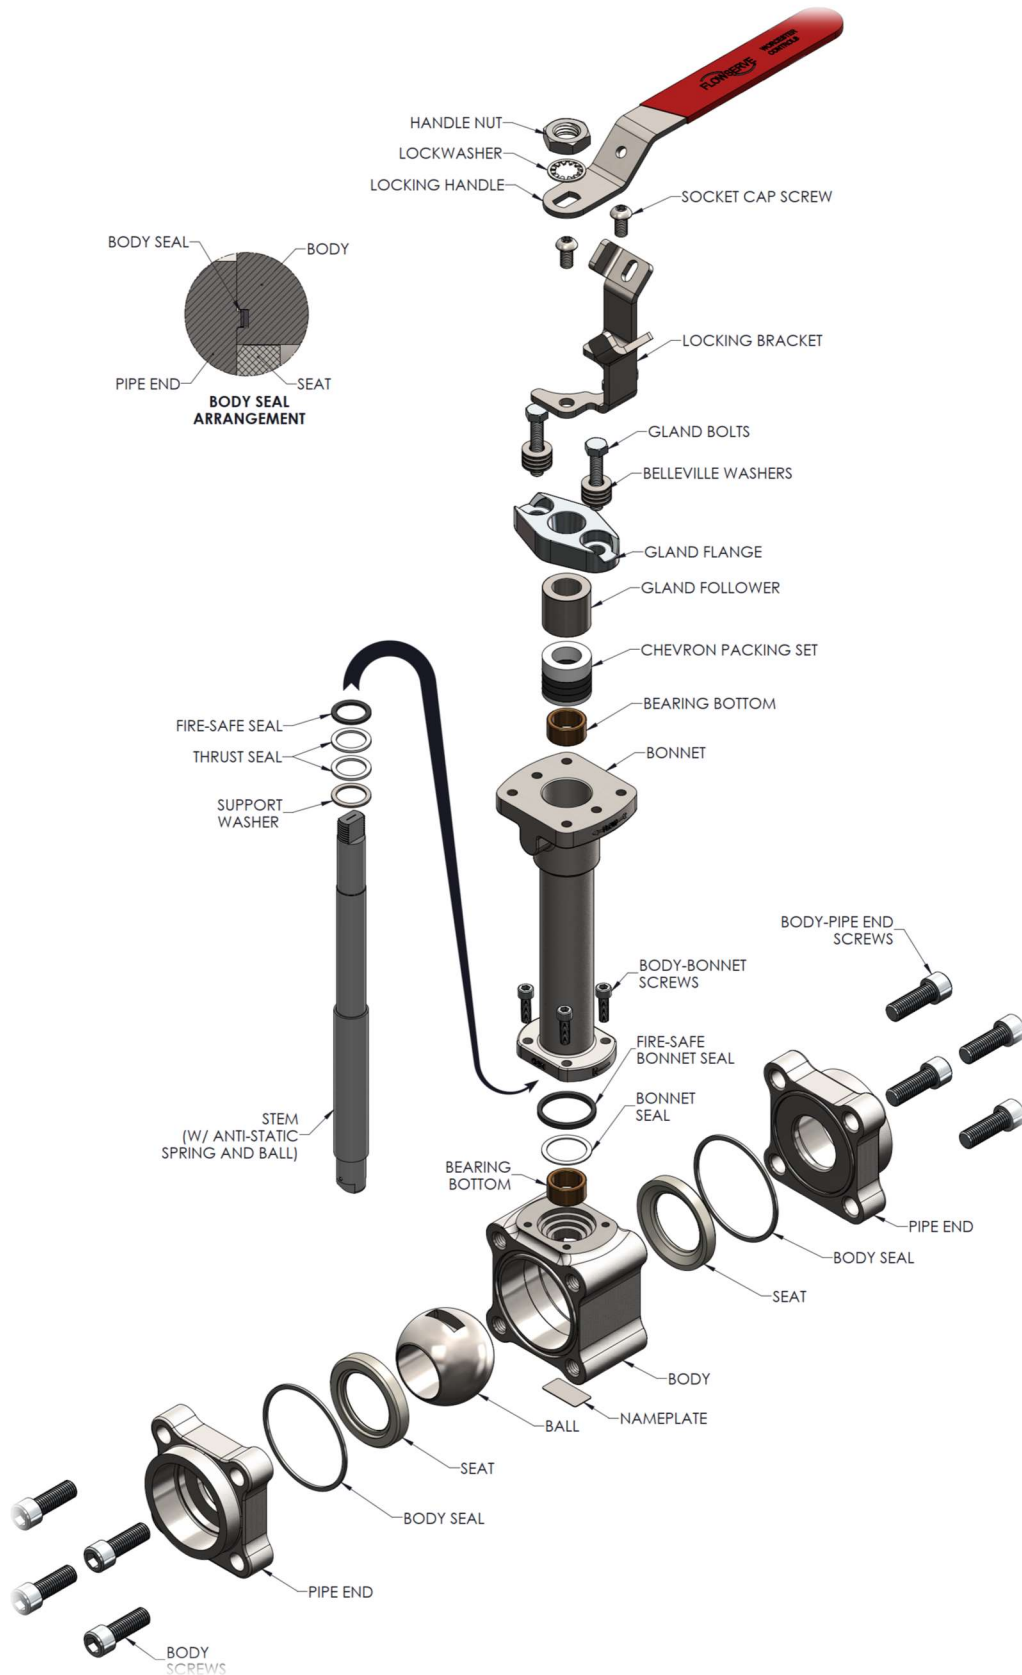

Figure 2 :
1. Set the valve in open position (wrench / stem flats in line with the pipeline) to prevent the ball protruding out of the body and fouling on the pipe end when the body is removed. (Refer Figure 2 Exploded view for parts identification)
4. The pipe end must be pulled apart slightly to prevent scoring of the machined faces. In these valves, the pipe end must be pulled apart even further to allow clearance for the body seal spigot. (Refer Figure 2 Body seal arrangement for clarity)
3. Take the stem and slide out the parts one by one starting from Support Washer, new thrust seals & new Fire-safe seals from top. Consider this as stem assembly. (Refer Figure 2 Exploded view for all parts identification)
Flow Arrow direction and Handle end should be opposite to each other after installation, refer Figure 2 Exploded view for clarity on the installation)